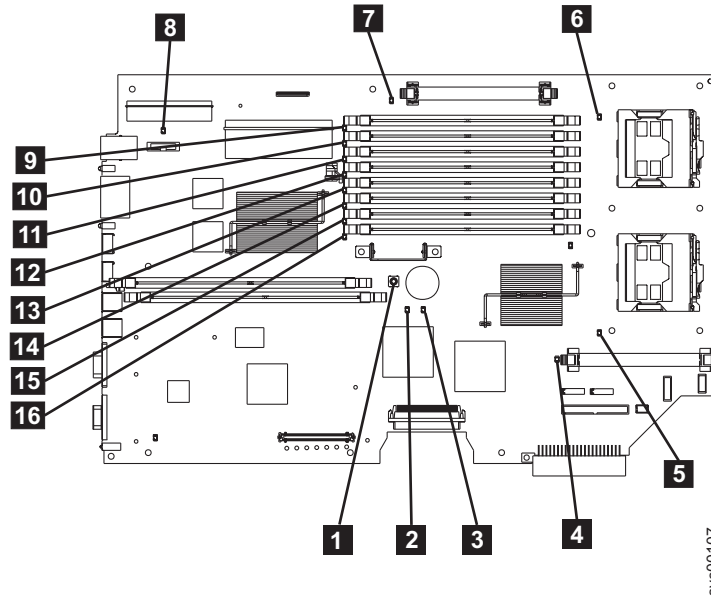

Figure 105. SAN Volume Controller 2145-8F2 and SAN Volume Controller 2145-8F4 system board LEDs
**YES** Refer to Table 60 on page 422 and perform the action specified for the specific light path diagnostics LEDs, then go to step 3 on page 423. Some actions will require that you observe the state of LEDs on the system board or on the fan backplanes. The location of the system board LEDs are shown in Figure 105 on page 421. The fan LEDs are located adjacent to each FAN. To view the LEDs you will need to do the following:
- d. Press the light path diagnostics button **1**. See Figure 105 on page 421.